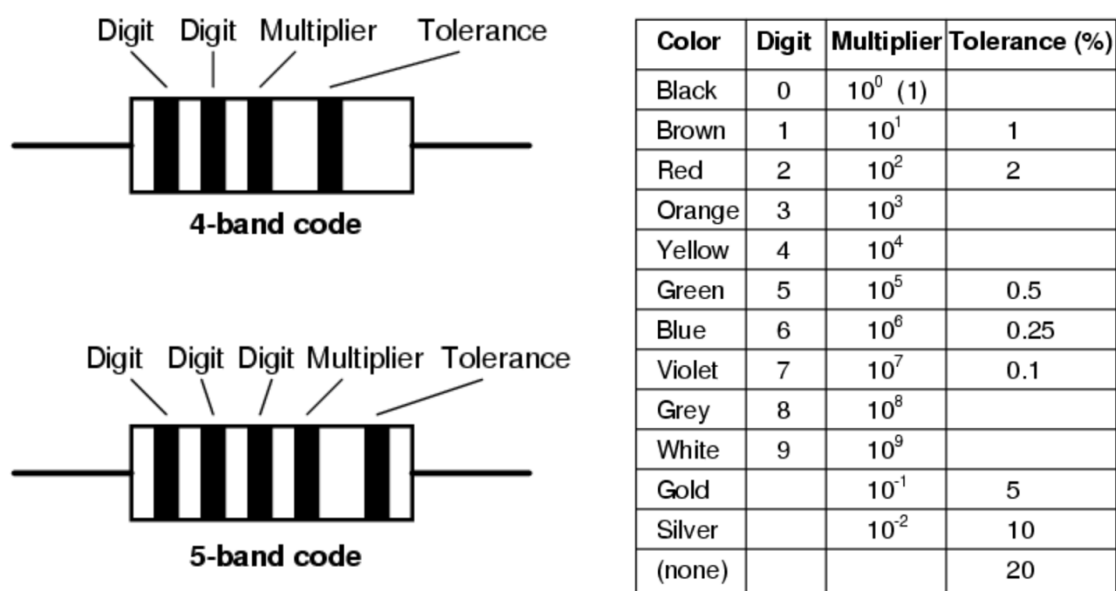

fig. 4
- Connect the test there leads to the tested resistor as in the fig.4 and read the scale in accordance with the reference table.